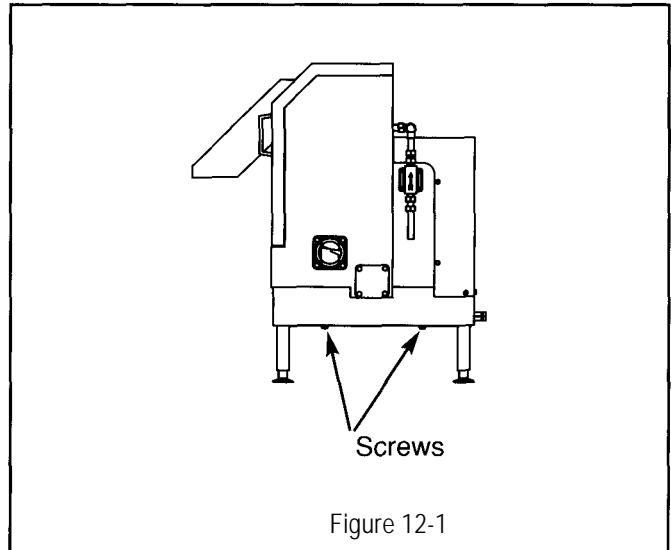

Figure 12-1
2. Remove screws holding the bottom cover in place (see figure 12-1).